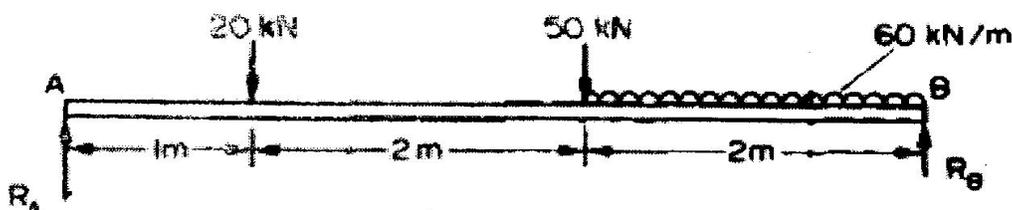

Figure 1
11. Determine the deflection at a point 1 m from the left-hand end of the beam loaded as shown in Figure 1 using Macaulay's method. Assume  $EI=65000 \text{ N-m}^2$ .